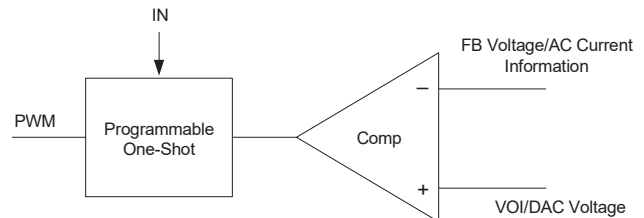

Figure 9. Simplified Control Schematic
The control algorithm of AOZ22722QI is constant-on time PWM control with input feed-forward. The simplified control schematic is shown in Figure 9. The high-side switch on-time is determined solely by a one-shot whose pulse width is inversely proportional to input voltage (IN). The one-shot is triggered when the internal VOI/DAC voltage is higher than the combined information of output voltage and the AC current information of inductor, which is processed and obtained through the sensed low-side MOSFET current once it turns-on. The added AC current information can help the stability of constant-on time control even with pure ceramic output capacitors, which have very low ESR. The AC current information has no DC offset, which does not cause offset with output load change, which is fundamentally different from other V^2 constant on-time control schemes.